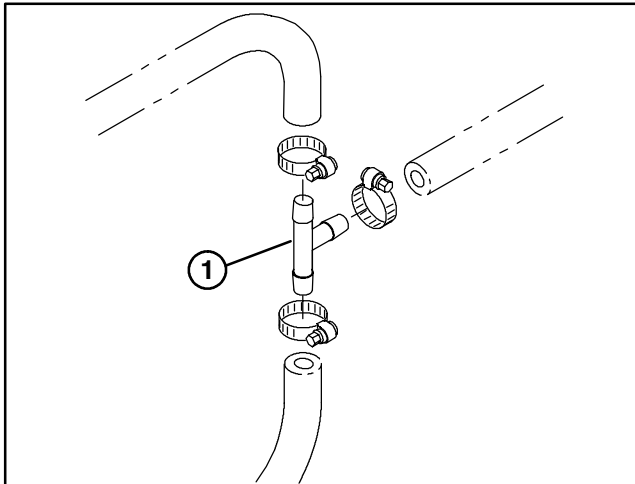

Figure 8
MOUNT COUNTERBALANCE MANIFOLD (Fig. 8–16)
4. Mount the hoses to new T–fitting with hose clamps removed, as shown in figure 8.